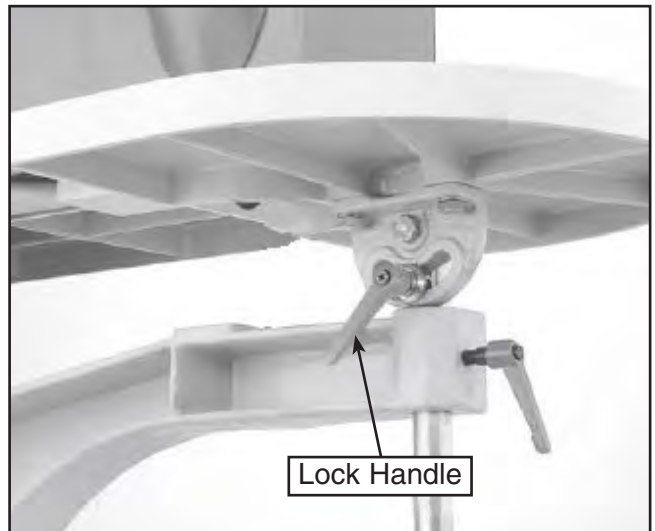

Figure 19. Lock handle for side table angle.
1. Loosen the lock handle underneath the side table shown in **Figure 19**.